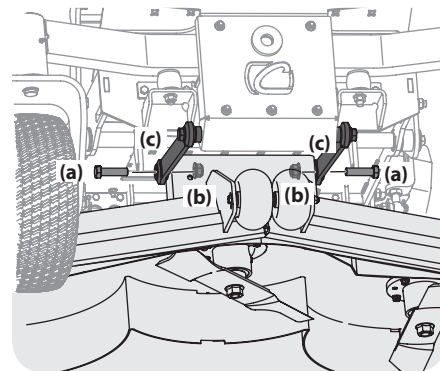

Figure 4-21
6. Remove the hex screws (a) flange lock nuts (b) securing the front deck control rods (c) to the deck. See Figure 4-21.